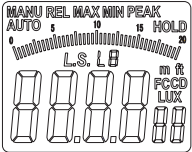

Figure 6
- Hold the “MAX/MIN/LS” button for one second and the LS value will flash on the LCD display (as shown in figure 6). The meter is now in source selection mode. Press “REL/PEAK” or “HOLD/ZERO” to change the light source (L0-L9), long press to accelerate change. Press “RAN” again to switch back to the previous step.